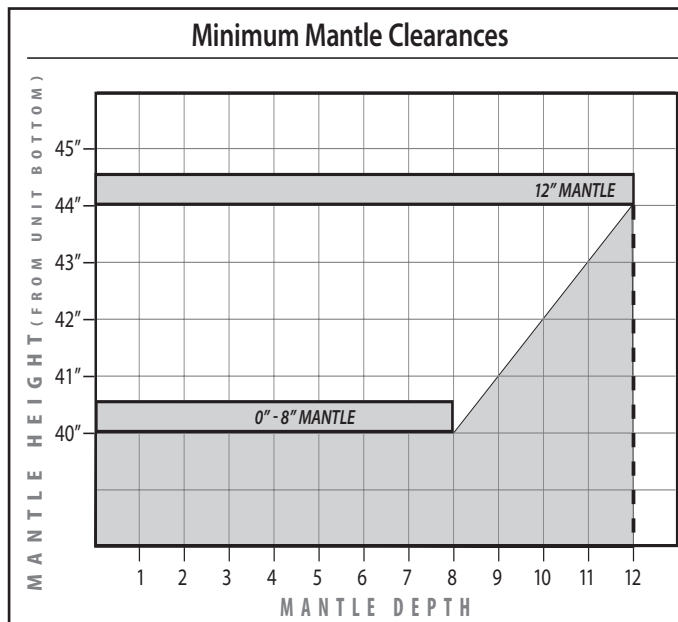

Figure 25: Mantle width and height.
The ENVIRO E44I may be installed and vented into any solid fuel fireplace that has been installed in accordance with the National, Provincial/State and local building codes and has been constructed of non-combustible materials. Before starting, refer to INITIAL INSTALLATION - PREPARING YOUR E44I FOR INSTALLATION. Please reference the information in Table 4 and Figures 25, and 28.
1. Plan your installation and clearances to combustibles. The E44I may be installed and vented into any solid fuel fireplace that has been installed in accordance with the National, Provincial/State and local building codes and has been constructed of non-combustible materials. Also refer to the INITIAL INSTALLATION - PREPARING YOUR E44I FOR INSTALLATION and CLEARANCES TO COMBUSTIBLES sections. Refer to Figure 25 throughout installation.